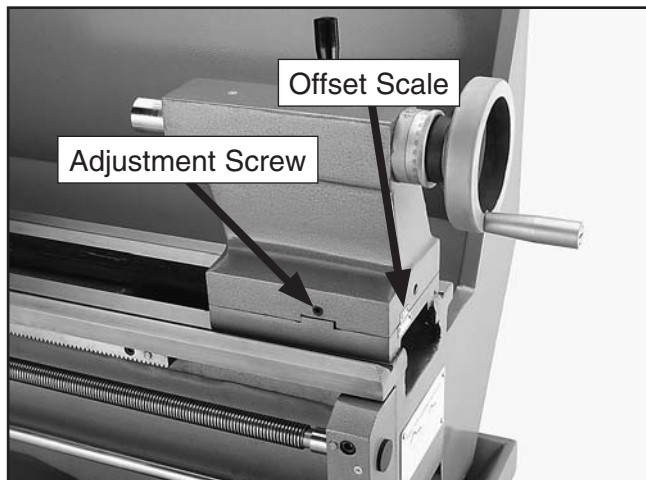

Figure 33. Offset scale.
2. Alternately loosen and tighten the two adjustment screws until the desired offset is indicated on the offset scale (see **Figure 33**).